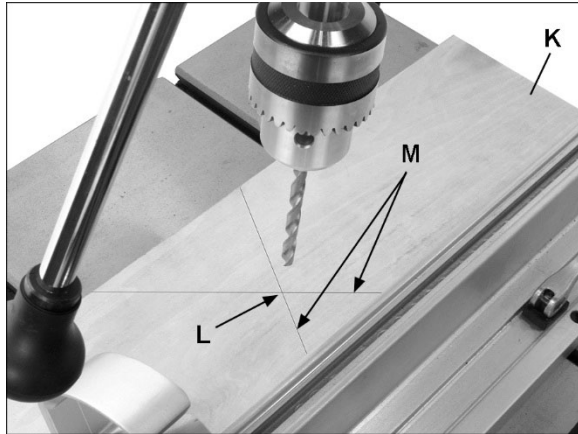

Figure 8-10
- Place board (K, Figure 8-10) flat on table. Do not allow board to move from this position; use clamps if needed. Bring the bit down until it *leaves a slight perforation* in the board; then raise it back up.
- Adjust the other laser assembly in the same manner until the laser lines form cross hairs exactly over perforation in board, as shown in Figure 8-10.